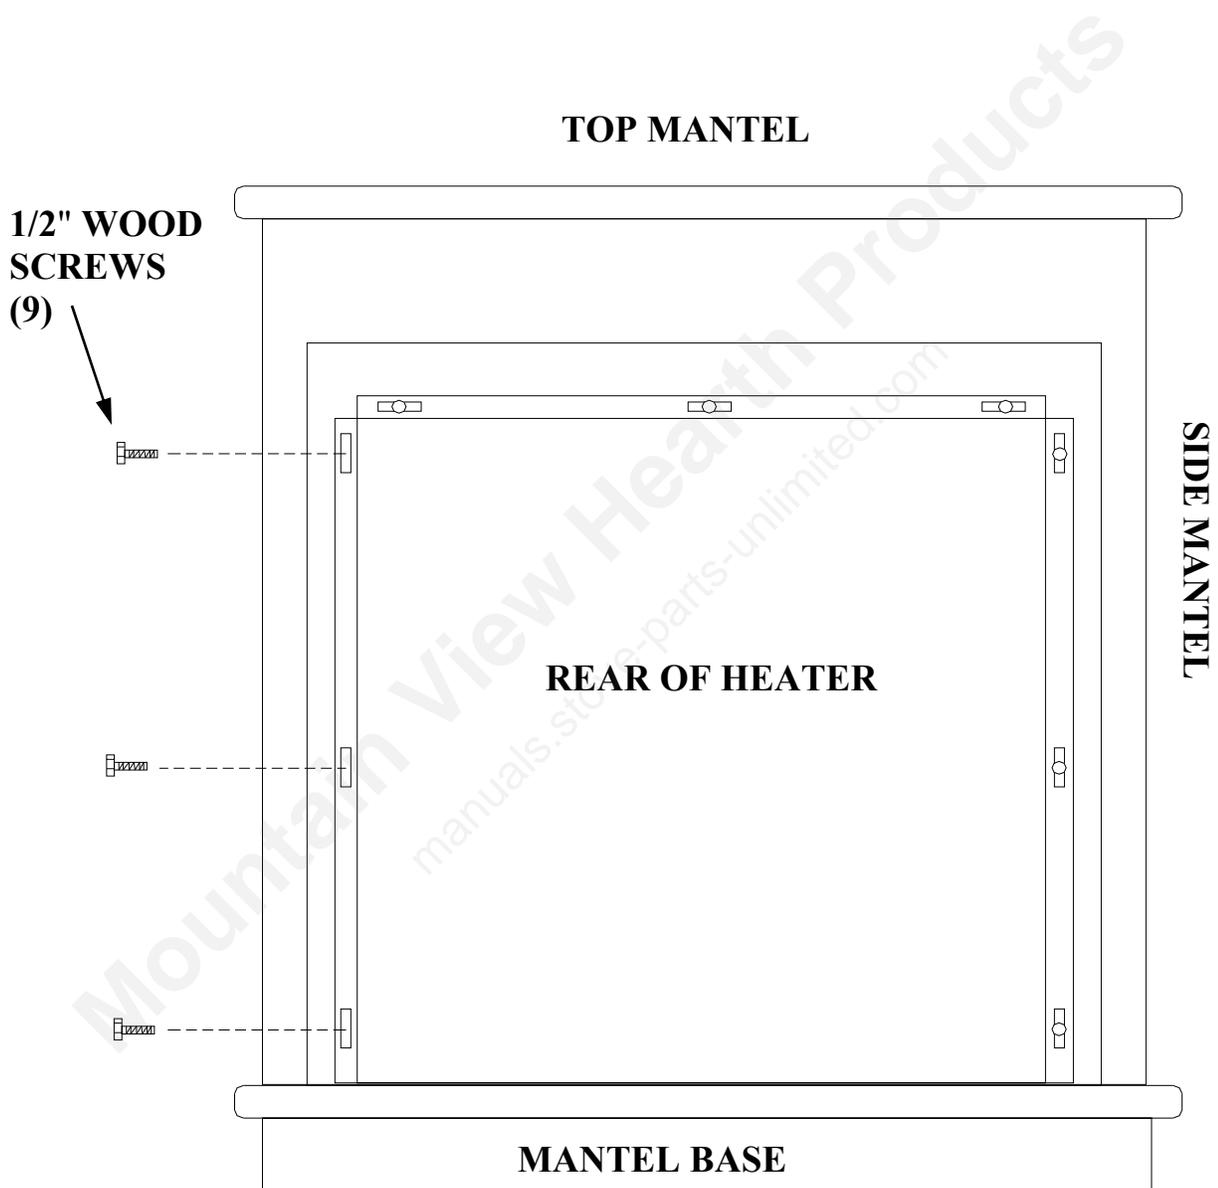

FIGURE 6
(5) Center the heater in the opening of the mantel. See Figure 6.
(6) Fasten mantel to hearth by using 1/2" wood screws.
(7) Insert the nine (9) wood screws provided with mantel through slots on nailing flange and secure in place. See Figure 6.
(8) Position mantel and fireplace into desired location.